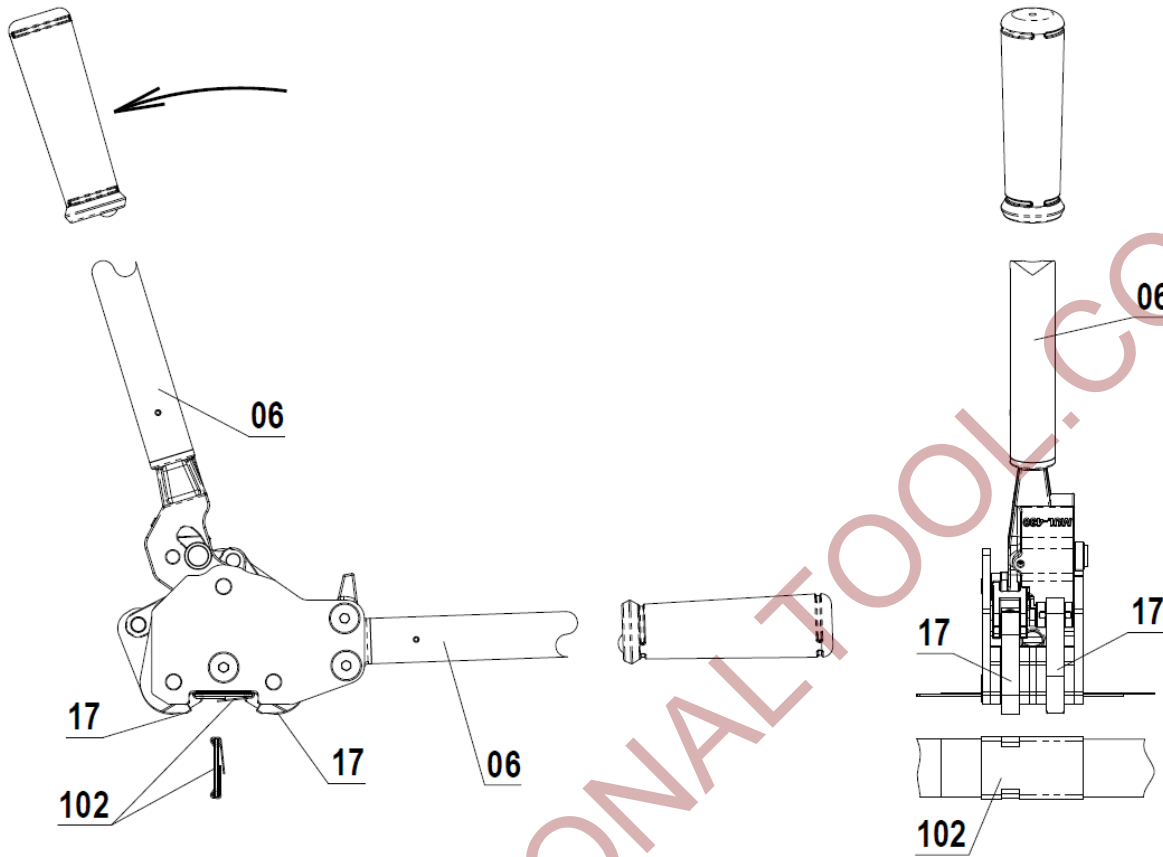

Fig. 3
2. Keeping **Jaws 17** on the middle of the seal move the **Upper Handle Lever 06** until you have a click as shown on Fig. 3. **Lower Handle Lever 06** remains at the same position.